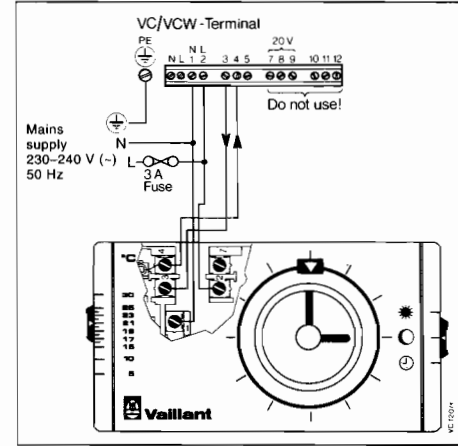

Fig. 26
- A) Automatic temperature setback (Fig. 26) or